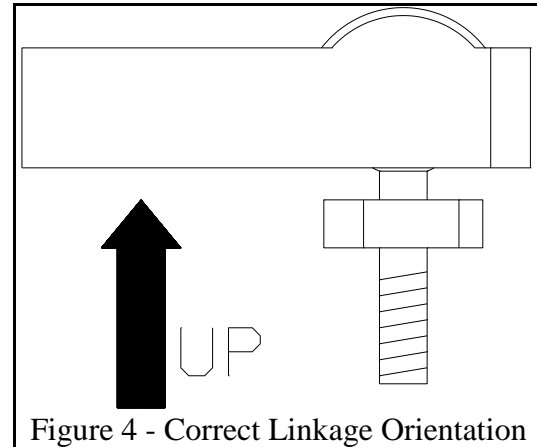
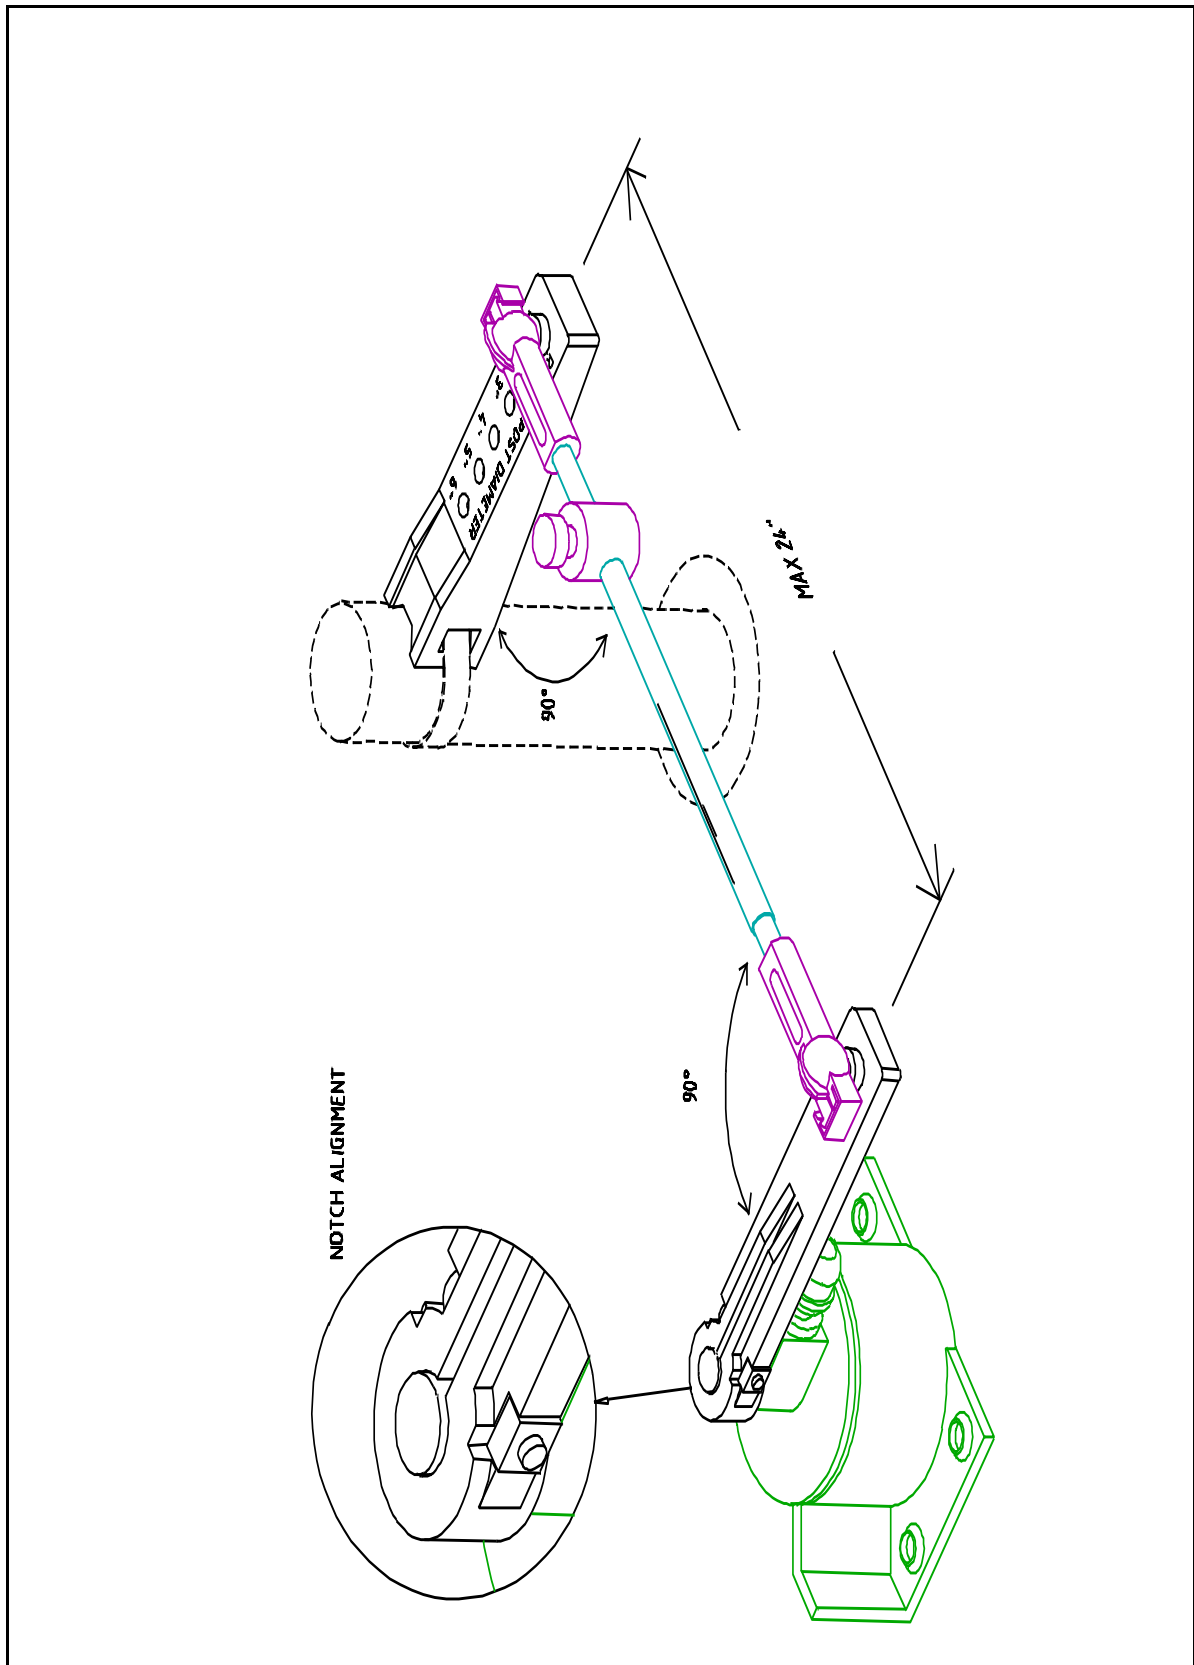

Figure 4 - Correct Linkage Orientation
Figure 5 - Rudder Feedback correctly installed to rudder post
Mount the rudder post arm on the rudder post using a stainless steel band clamp (not supplied). Bolt the ball joint to the hole in the rudder post arm corresponding to the diameter of the rudder post in inches, making sure the ball is facing upwards. Mount the rudder follower so that the rudder follower arm is the same height as the rudder post arm. The rudder follower is centred when the arm is directly above the cable gland. See Figure 4 and 5 for alignment details.
- drill a clearance hole for a 1/4 inch bolt if enough of the threads of the supplied ball joint will come through the tiller arm to permit the supplied nut to be threaded onto it. The rudder follower is centred when the arm is pointing away from the cable gland and is directly over the stainless rivet in the top cover. See Figure 5 for alignment details.
The distance between the centerline of the rudder post and the rudder follower must not exceed 24 inches. Make sure that the ball joints on the rudder arm and rudder follower arm are facing upwards as shown in 4. Snap the rod assembly onto the ball joints. Be sure to close the release clamps on each socket. Refer to Figure 2, Figure 4 or Figure 5 and adjust the length of the rod to get the correct geometry with the rudder dead ahead.